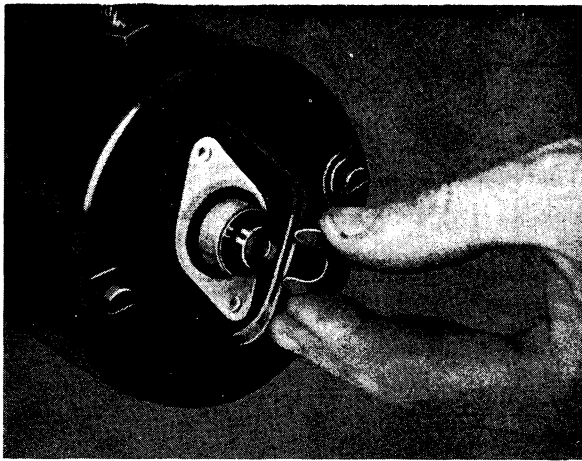

Fig. 3-55. Removing lock washer
2. Lift off the lock washer and adjusting washers as shown in Figs. 3-55 and 3-56.